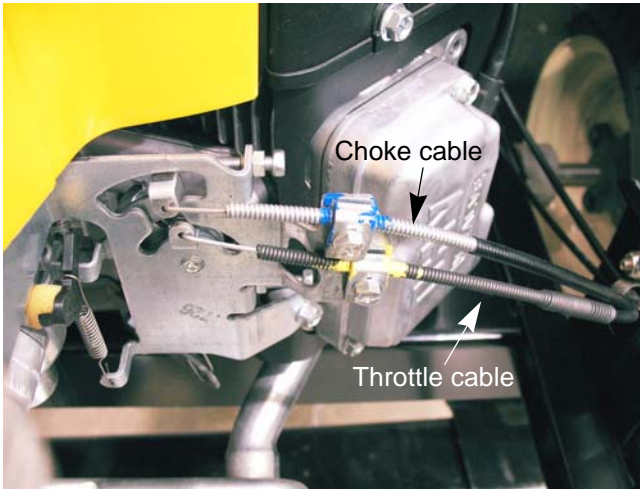

Figure 4.15
1. Disconnect the choke and throttle cables from the engine. See Figure 4.15.